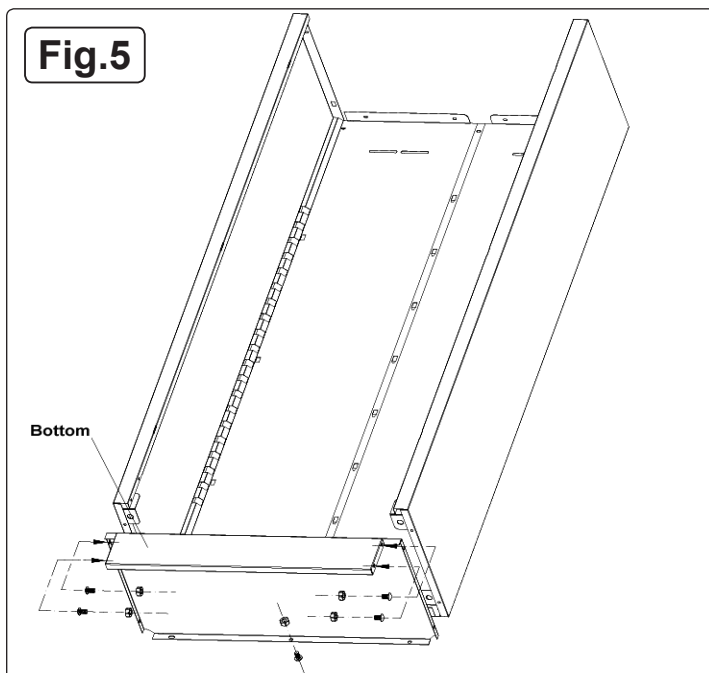

Fig.5
4.4. FLOOR ASSEMBLY (Fig.5)
- 4.4.3. Secure the back of the floor with one M5 bolt and nut as shown in Fig.5.